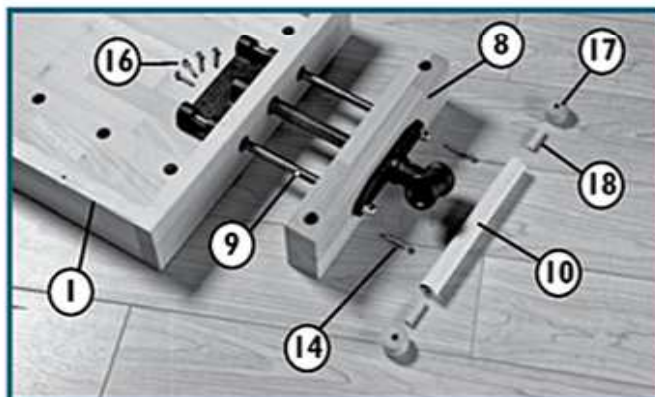

Fig. 4
4. Slide the Vise Assembly (9) through holes in the Vise Face (8) and Bench Top (1). Secure Vise Assembly (9) to the Bench Top (1) with four Hex Head 6 x 30mm Bolts (16) and to the Vise Face (8) with two Head 6 x 40mm Bolts (14). Feed the Vise Handle (10) through the Vise Assembly (9) and attach Handle Ends (17) with Dowels (18) (Fig. 4). Repeat this process to attach the other Vise Assembly to the front of the Bench Top.